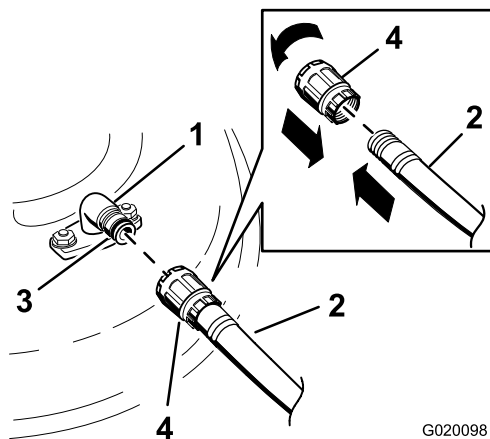

Figure 74
3. Attach the hose coupling to the end of the mower washout fitting, and turn the water on high (Figure 74).